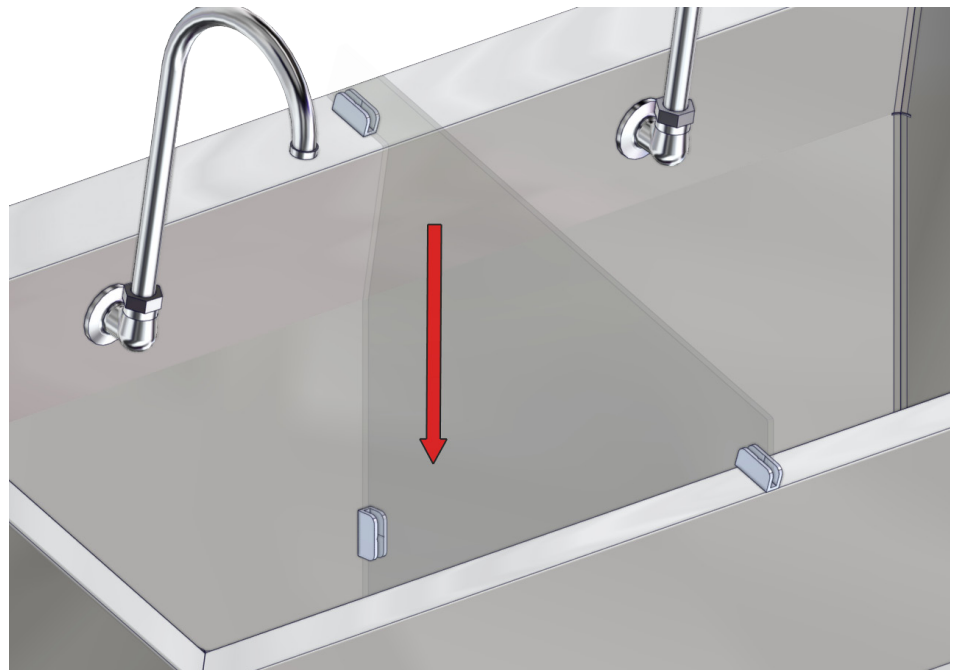

Fig. 4: Insert divider into brackets
4. Insert the divider through the center bracket (Fig. 4). The two tabs on the divider should fit securely in the top two brackets.